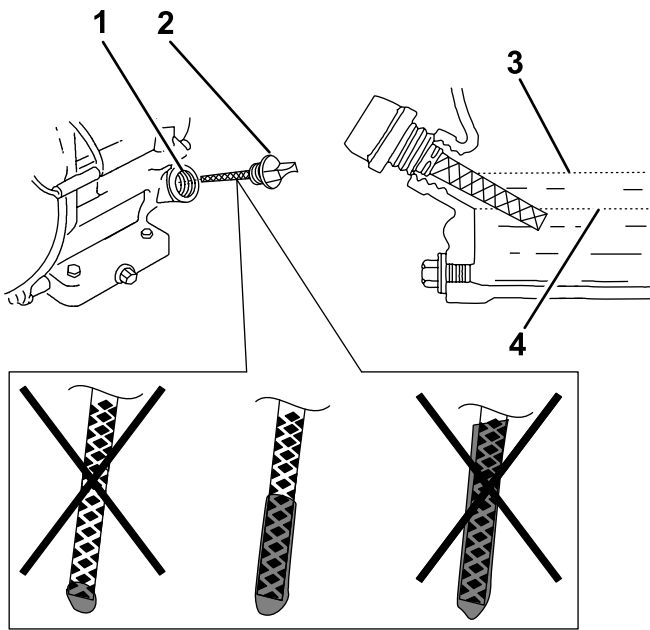

Figure 47
1. Remove the dipstick (Figure 47) and slowly pour oil into the fill hole until the oil reaches the upper-limit mark (bottom edge of the oil-fill hole) on the dipstick.